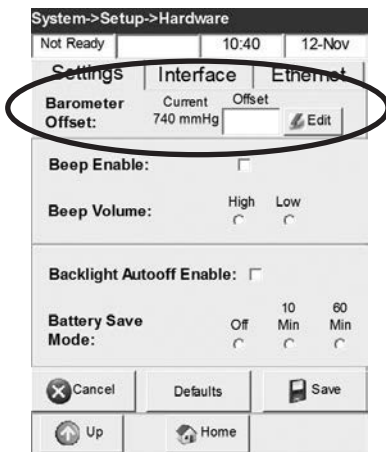

Fig. 3-36 Enter barometric pressure
3. In the **<Settings>** menu, press **Edit** to enter an offset from the true barometric pressure (Fig. 3-36).